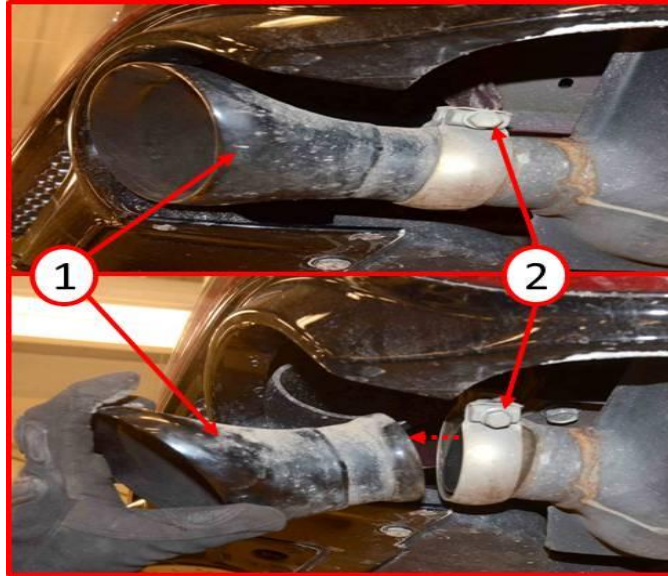

Fig. 1 Remove Old Exhaust Tips
2. Remove the right and left side exhaust tips (1) from the vehicle by loosening the bolt (2) on each of the exhaust clamps (Fig. 1).